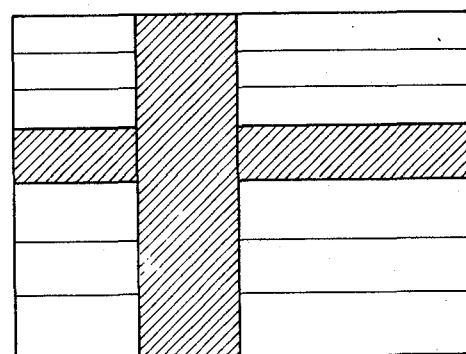

Fig. 22-1
2. Adjust until the picture stops drifting or moves slowly by turning DA board RV5 as shown in Fig. 22-1.